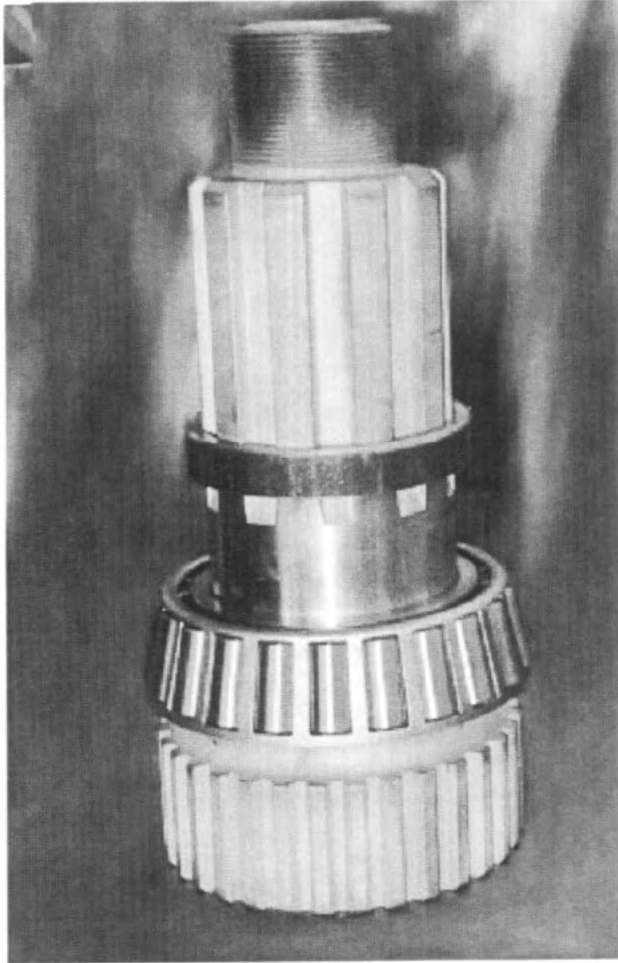

Fig. 52
2. Install the bearing spacer ring against the bearing. See Fig. 52.